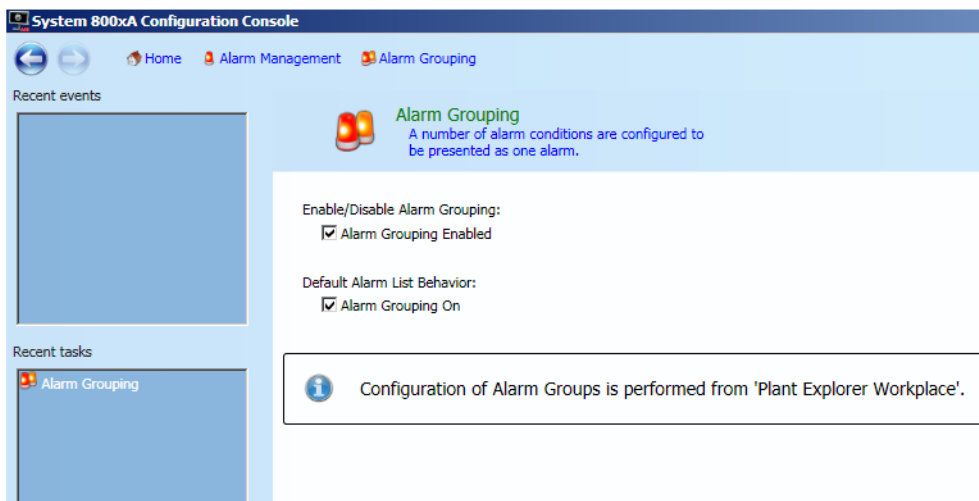

Figure 61. Enabling Alarm Grouping
1. Select **ABB Start Menu > ABB Industrial IT 800xA > System > System Configuration Console > Alarm Management > Alarm Grouping**, refer to Figure 61.